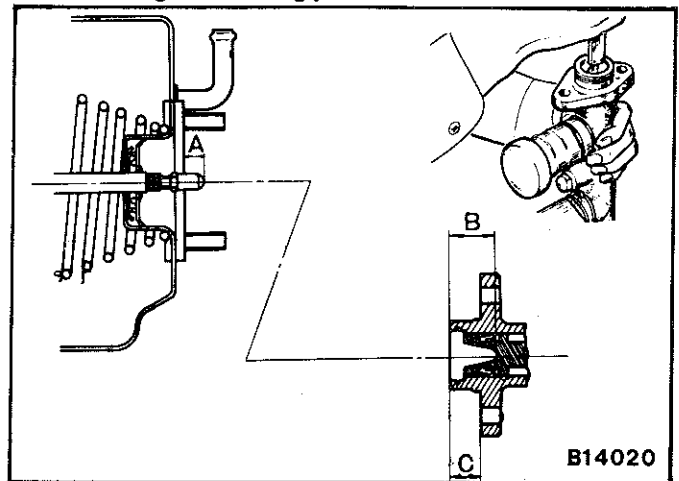

Fig. 10—Checking booster push rod to master cylinder piston clearance
- Measure the master cylinder piston end gap (dimension B-C fig 10). This dimension should be 8 to 8,5 mm (0.315 to 0.335 in.).
- Measure the amount of protrusion of the booster push rod (dimension A fig. 10). Deduct this figure from the result of B-C. If the calculated result fails to fall within the specified clearance adjust the push rod length accordingly.